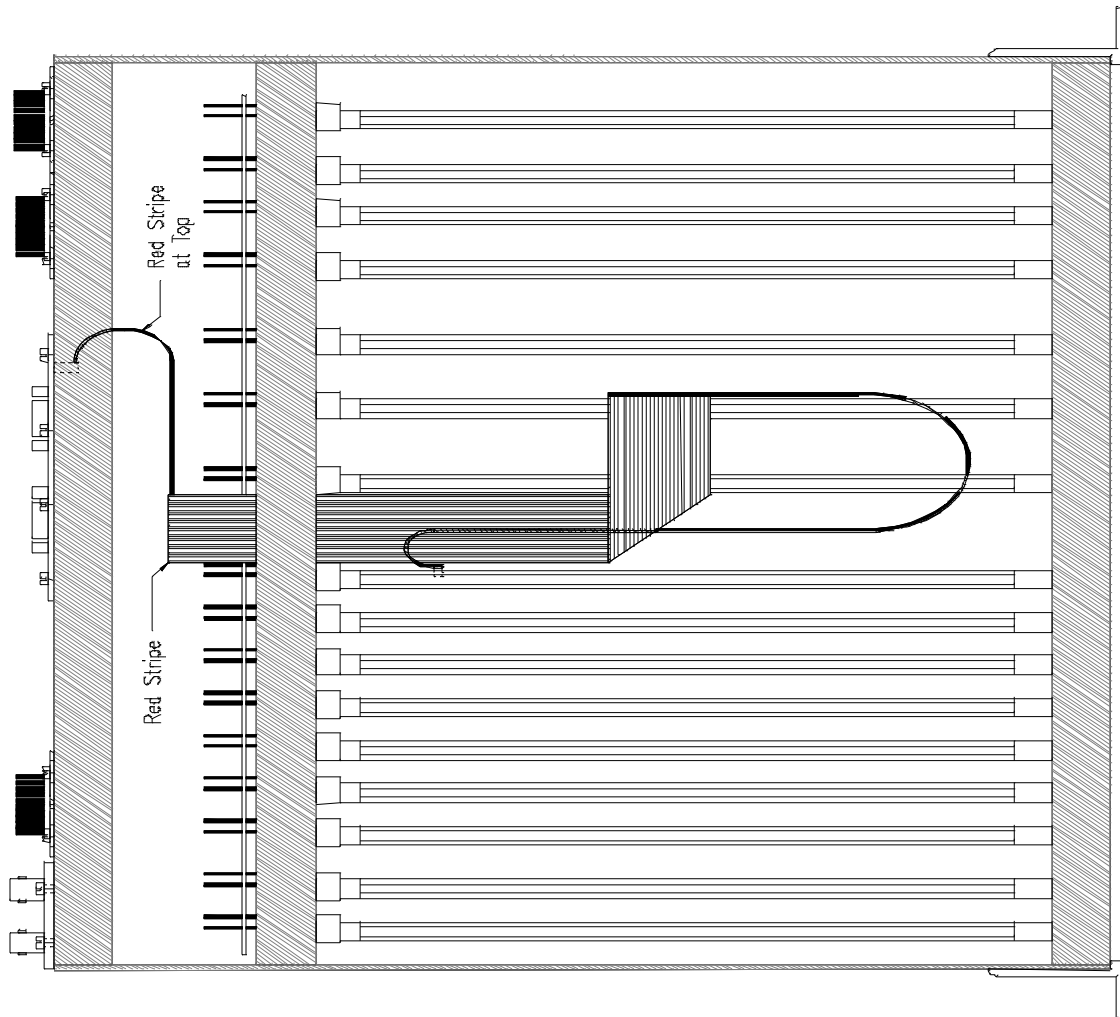

Figure 7 - SRCP2 Cable Routing (Top View)
8. Connect 26-conductor ribbon cable (19003) to SRCP2 **P13**. Route this cable as shown in Figure 7. This cable goes above the motherboard and between the edge connectors, but under the metal crossbar, if possible, and re-enters the rack between the Servo Control 2 (474) and Velocity Servo (470 or 852) slots. It will be connected to the Supervisor in a later step. This routing is to ensure that the Supervisor board (23021) can be withdrawn from the Framing slot (472) without disconnecting or entangling its associated cables.